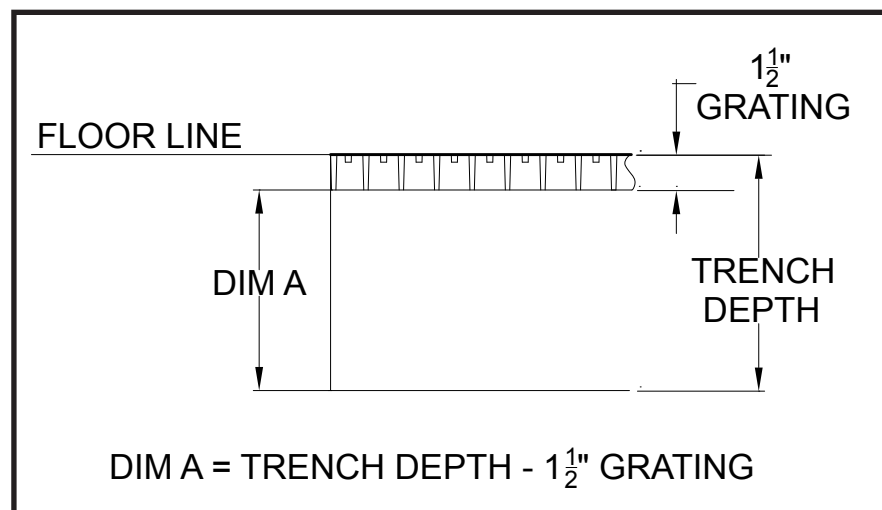

Figure 1.
1. Unpack the shipment and lay the 2 foot square panel along the side of the trench. Unpack and assemble the quad head grating pedestals. Measure the depth of the trench (distance from the floor to the bottom of the trench). Subtract the depth of the grating panel (1 ½") from this dimension (Trench depth – 1 ½" = height of adjusted pedestal or Dimension A). Adjust each grating support pedestal to the Dimension A (See Figure 1). Once they are assembled and adjusted lay them adjacent to the grating panels within easy reach.